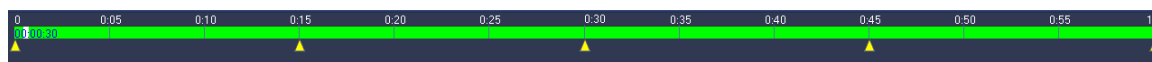

Figure 4-111
Step 2 On the right pane, check the box to enable splice playback function, and then set channel, date, split mode. The splice playback interface is shown as below. Each section has a small triangle; you can adjust it to set time. See Figure 4-111.